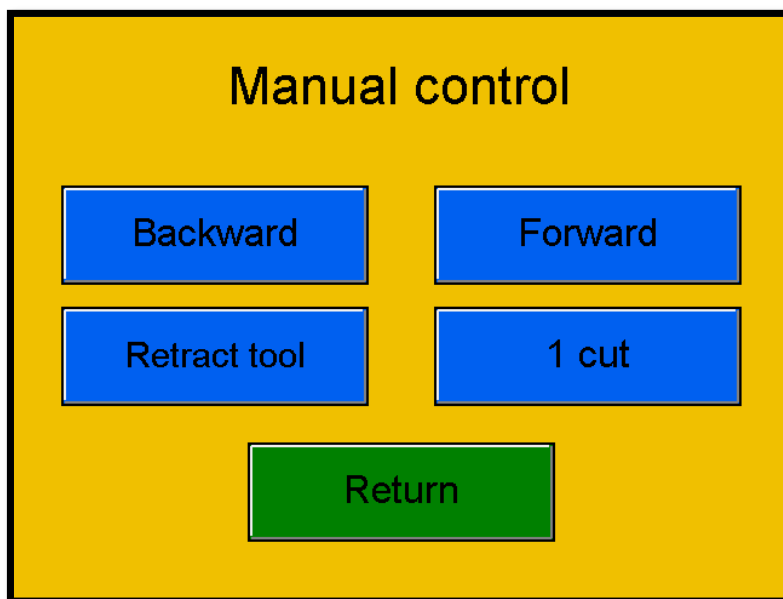

Fig. 29: The "Manual control" screen
Manual control is mostly used during exchange of tools or when loosening jammed paper from the machine. To replace the cutters in the tools loosen the tool screws (32, 33, 34, 38). Replace the cutter and fit the tool back. Tighten the tool screws (32, 33) lightly. Then place the tool into the machine and perform a trial stroke to ensure the cutter and the tool base (24) are parallel. Press the "**Manual control**" icon on the main screen and the following menu is displayed (fig. 29).